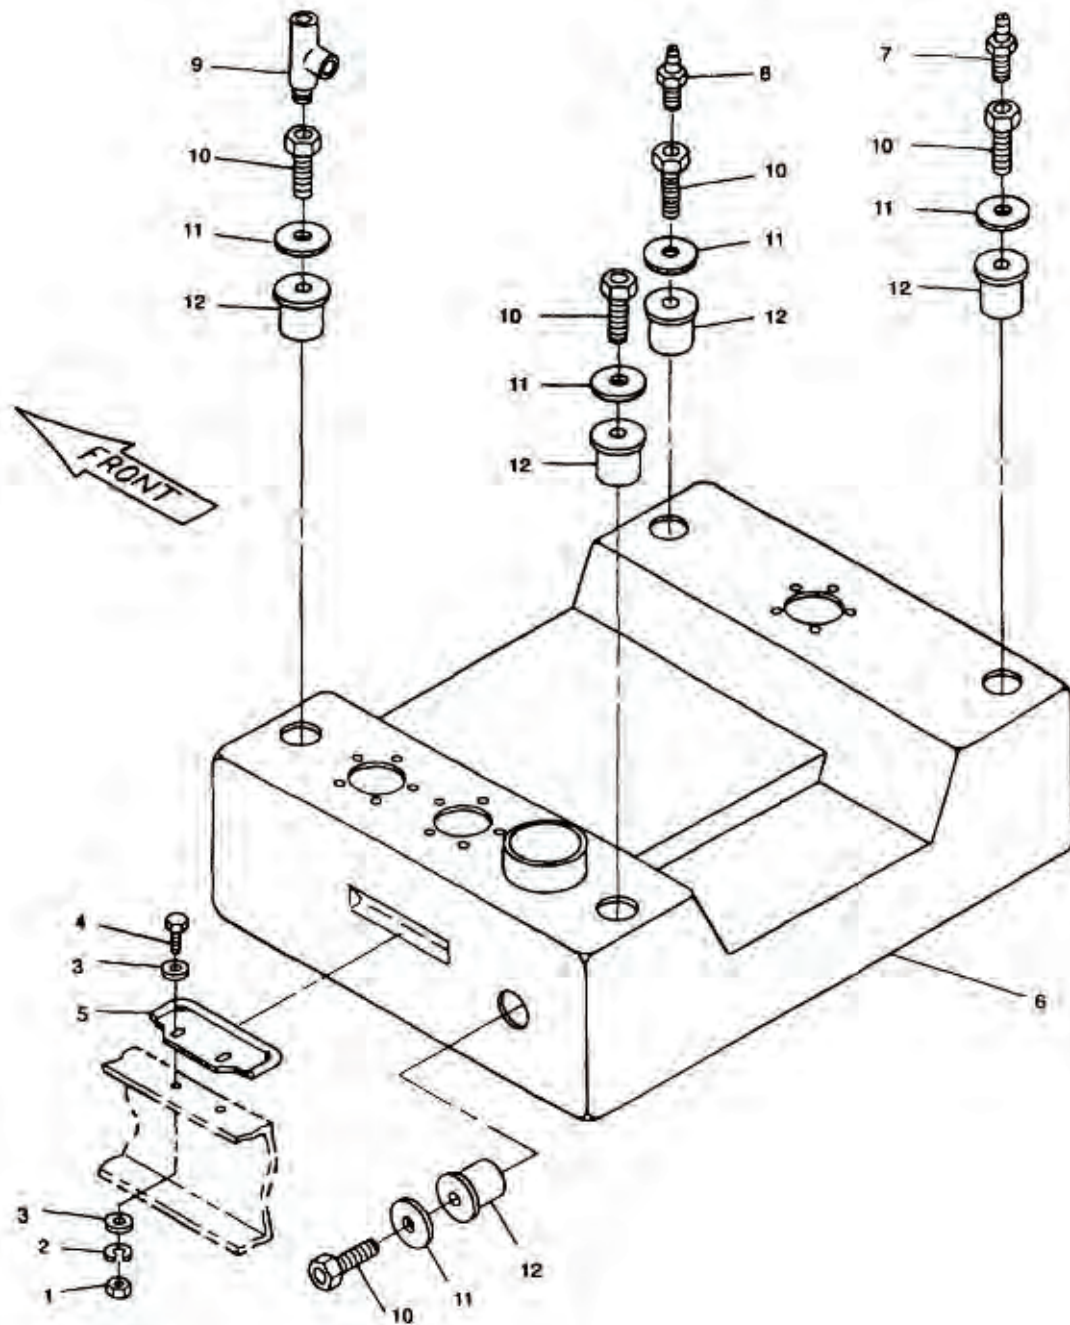

Figure 1. Fuel Tank.
6. Remove nuts (Figure 1, Item 1), lockwashers (2), washers (3), bolts (4), and plates (5) securing fuel tank (6) to skid base. Discard lockwashers (2).
7. Remove fuel tank (6) from skid base.
11. Remove fittings (7 and 8) from excess fuel studs (10) on right side of tank.
12. Remove fitting (9) from excess fuel stud (10) on left side of tank.
13. Remove studs (10), washers (11), and bushings (12) from fuel tank (6).
2. Install bushings (Figure 1, Item 12), washers (11), and studs (10) in fuel tank (6).
3. Install fitting (9) in excess fuel stud (10) on left side of fuel tank (6).
4. Install fittings (7 and 8) in excess fuel studs (10) on right side of fuel tank.
8. Install fuel tank (6) in skid base and secure with plates (5), bolts (4), washers (3), new lockwashers (2), and nuts (1).